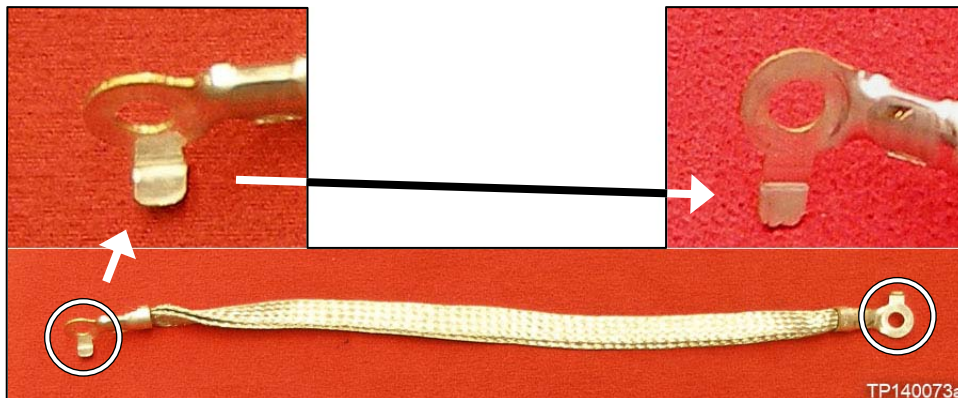

Figure 3: Flatten tabs on both eyelets before installing the new ground wire.
- Before installing, flatten the tabs on both eyelets of the new ground wire (see page 2, Figure 3).